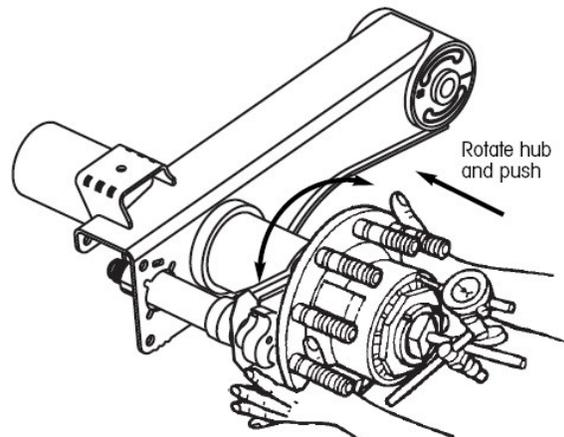

Figure 6
3. Grasp the hub at the three and nine o'clock positions. Rotate the hub in both directions while pushing the hub **INWARDS** until the dial indicator reading remains constant. *See Figure 6*